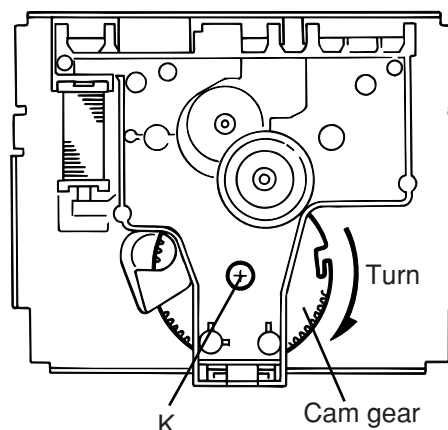

Fig. 11
■Assembling (Figs. 11 to 13)
7. Set the cam gear with the screw (K).